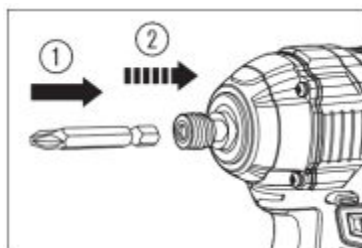

Fig.4
- Insert the bit into the opening of the tool holder. Release the locking sleeve (**Fig. 4**).